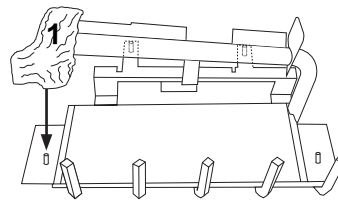

Figure 44 - Installing Log No. 1
1. Place log #1 (base log) onto pin on left side of grate as shown in Figure 44.